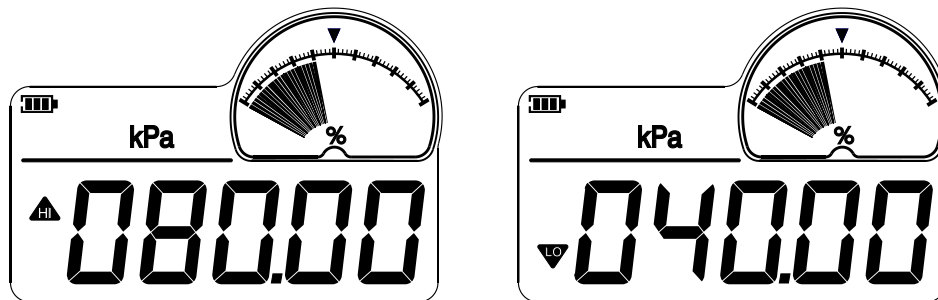

Figure 7-7-4: The setting menu of high limit and lower limit
- (4) The ConST211 automatically check the validity for inputting data. If there is some problem, the setting is not effective. Figure 7-7-4 shows the setting menu.